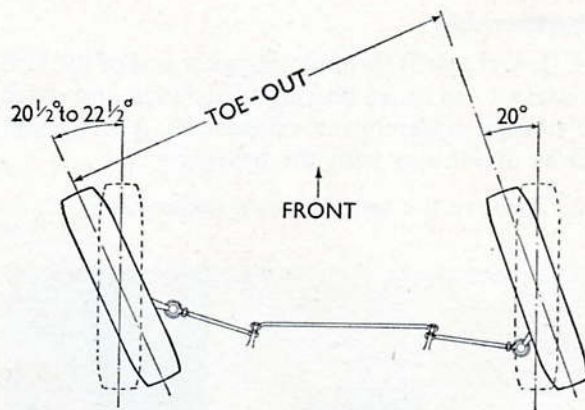

Fig. K.7. Toe-out on turns
**Toe-out on Turns (Fig. K.7)**